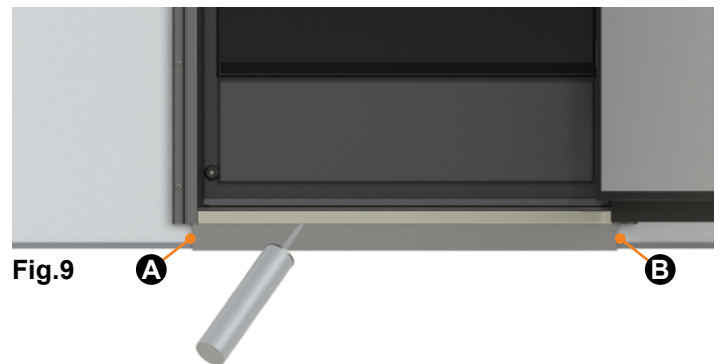

Fig.9
4. Run a bead of gunnable sealant on the bottom of the threshold (**Fig.9**) along the entire width of the door. Do not leave any seal voids at the corners (**Fig.9A, 9B**).